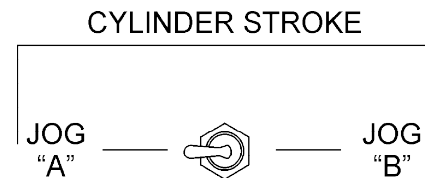

Figure 43. Manual Cylinder Jogging Switch
2. Turn and hold the **Manual Cylinder Jogging Switch** (Figure 43) to either **JOG "A"** or **JOG "B"** position to test the pressure of that cylinder.